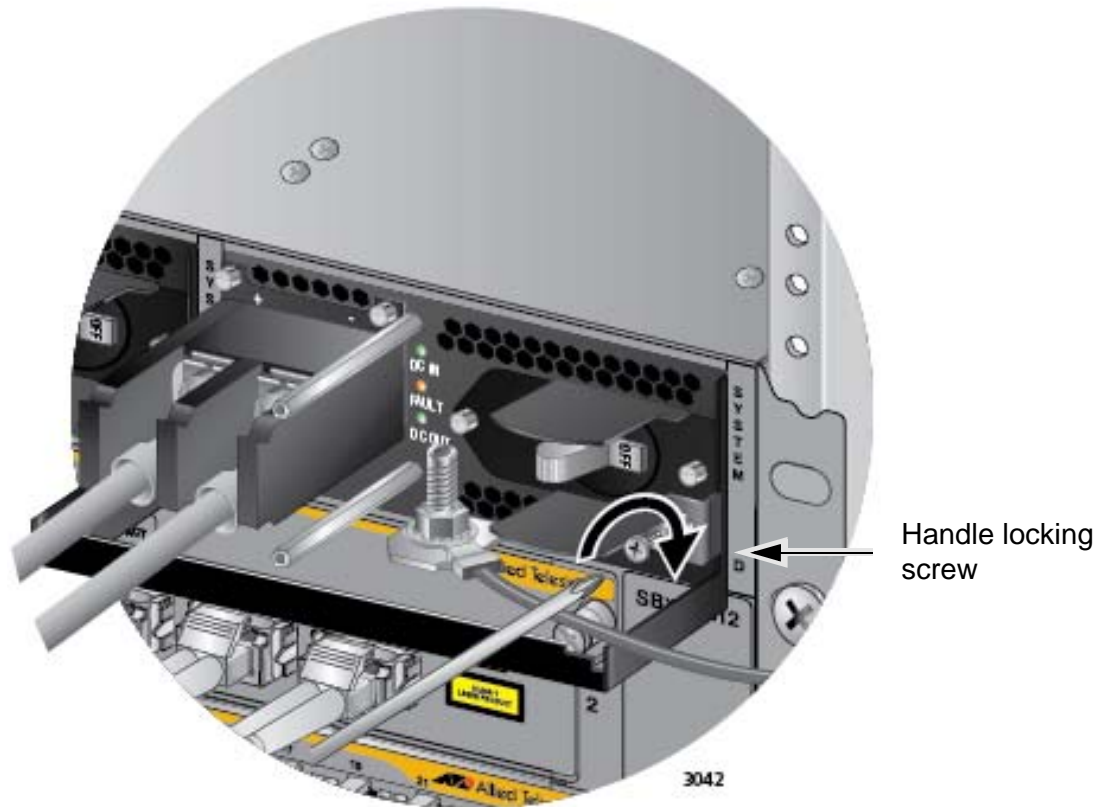

Figure 120. Tightening the Handle Locking Screw
8. With a #2 Phillips-head screwdriver, tighten the handle locking screw to secure the power supply to the chassis. See Figure 120 on page 181.